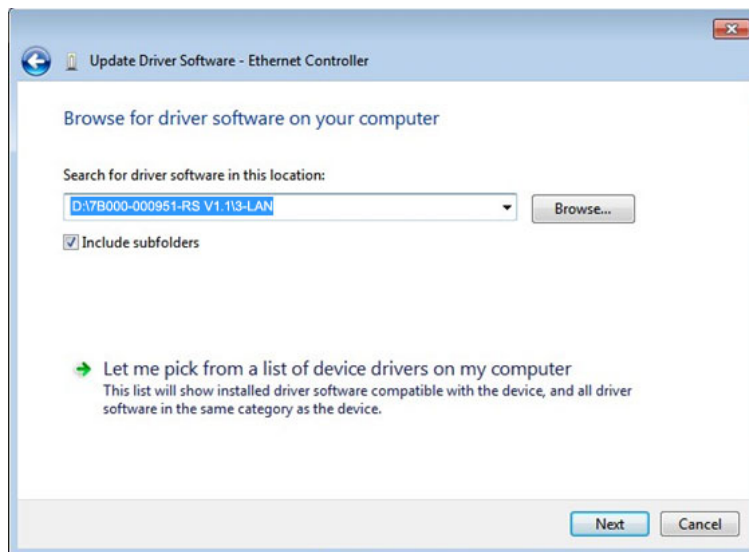

Figure 6-17: Locate Driver Files
Step 9: Click **Browse** to select "X:\13-LAN" directory in the **Locate File** window, where "X:\1" is the system CD drive. (Figure 6-17).